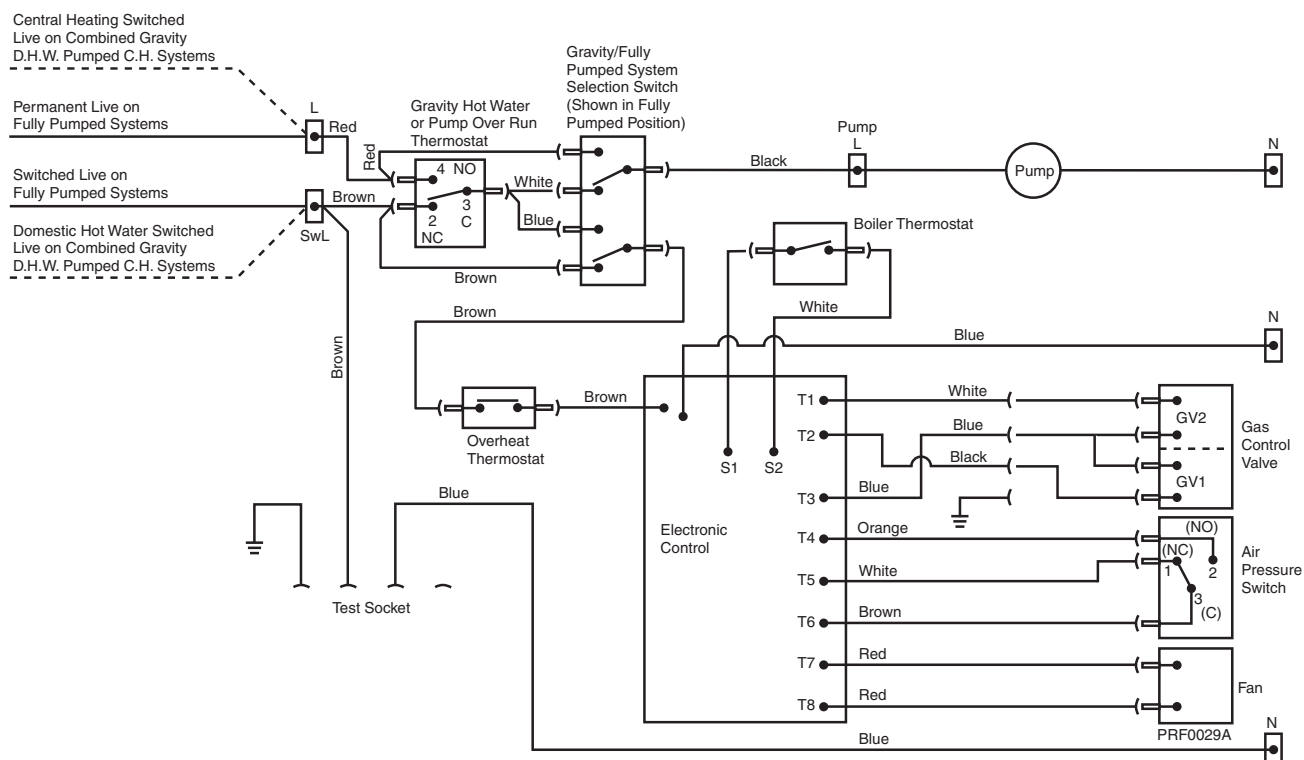

Fig. 27
4. Disconnect the electrical supply wires from the gas control valve noting their position. See Figs. 27 & 28.